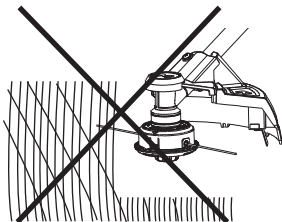
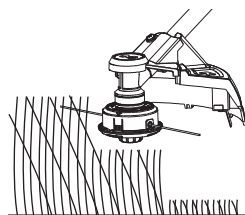

Fig. 23
Fig. 24
6. Ensure the cutting device remains clean and free from off-cuts that may cause it to jam. Check regularly. Release the on/off switch (1) and disconnect the product from the power supply before checking.
7. Trim longer grass in stages; do not cut long grass in one cut (Fig. 23). For the best results, cut longer grass in steps (Fig. 24).